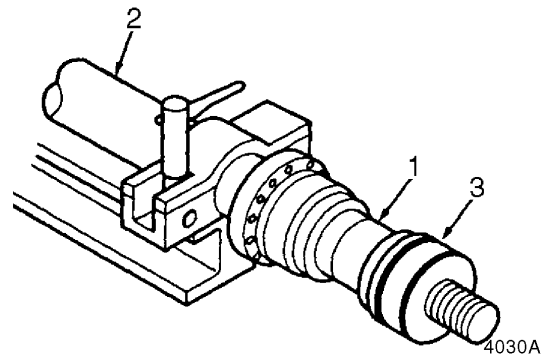

Figure 34
19. Install cushion flange (1, Figure 34) on cylinder rod (2). Slide piston assembly (3) onto cylinder rod (2).